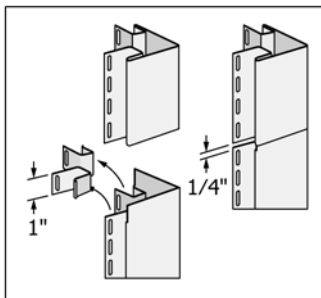

FIG. 9 Joining Corner Posts
9.2.1.1 If more than one length of corner post is required, lap the upper piece over the lower piece by cutting away 1 in. (25.4 mm) of the nailing flange on the top piece. Lap 3/4 in. (19 mm) allowing 1/4 in. (6.4 mm) for expansion. (See Fig. 9.)